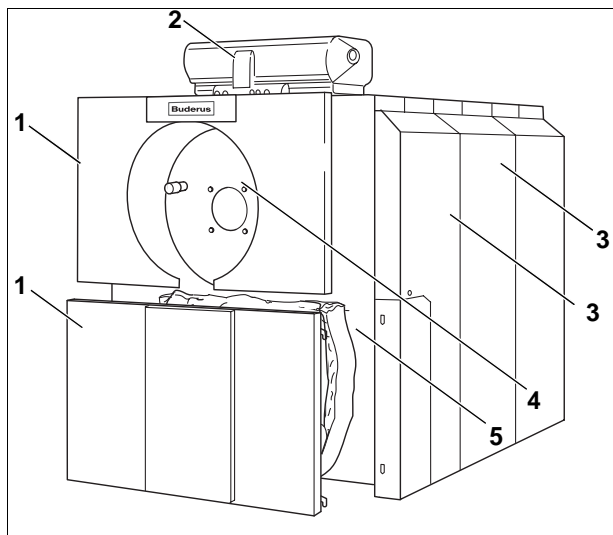

Fig. 1 SB735, condensing gas-fired boiler
The following are components of the SB735, condensing gas-fired boiler (Fig. 1):
- Boiler block (Fig. 1, **item 5**) incl. thermal insulation and burner door (Fig. 1, **item 4**).
- Boiler jacket (Fig. 1, **item 3**), thermal insulation and boiler front walls (Fig. 1, **item 1**).
- Control device (Fig. 1, **item 2**) (Optional).